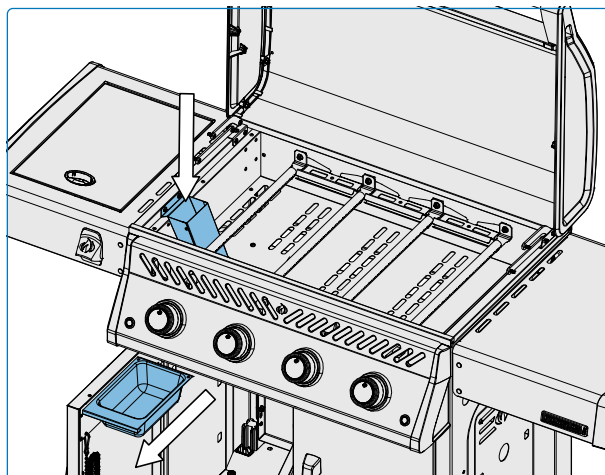

Fig. 12
1. Once the appliance has cooled completely, carefully remove the drip tray straight out from the appliance cart without tilting. **(Fig. 12).**